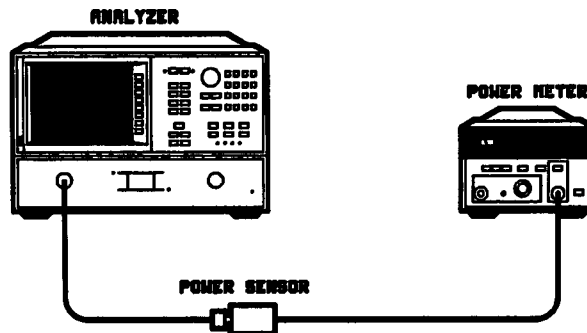

Figure 5–10. Power Linearity Correction Constants
4. Calibrate the power meter. Remove the frequency counter and connect the power sensor to the same point. Adjust the low band power level (see Figure 5–10) so that the power meter displays 0 dBm.
2. Calibrate the power meter and connect it to port 1 (see Figure 5–10).
(HP 8722C Opt. 006, –27 dBm), (HP 8722C, –22 dBm) at port 1 (see Figure 5–9).